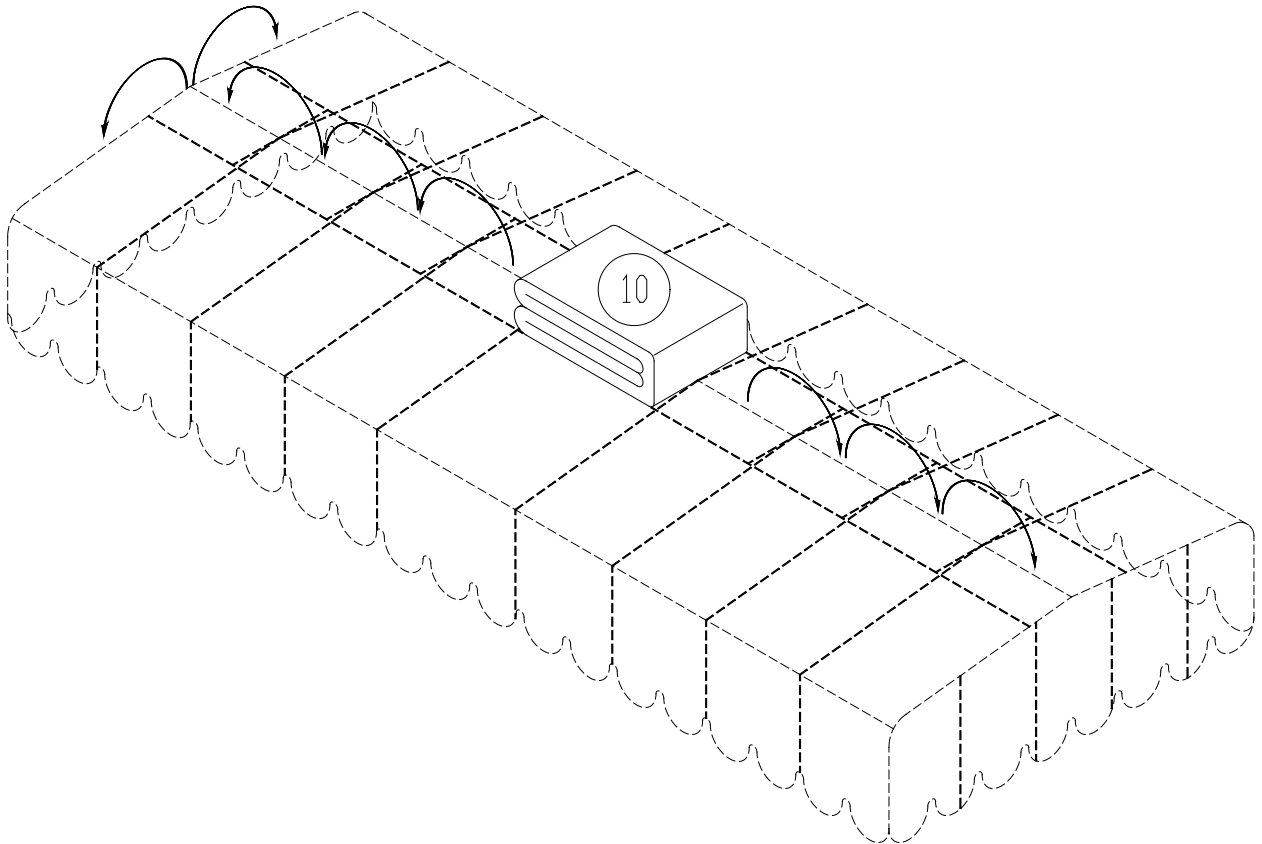

Figure 2-8
17. Refer to **Figure 2-8**. Place the canopy fabric bundle on top of the canopy frame and unfold down the length of the frame; then unfold across the width. Pull fabric snugly over the frame.